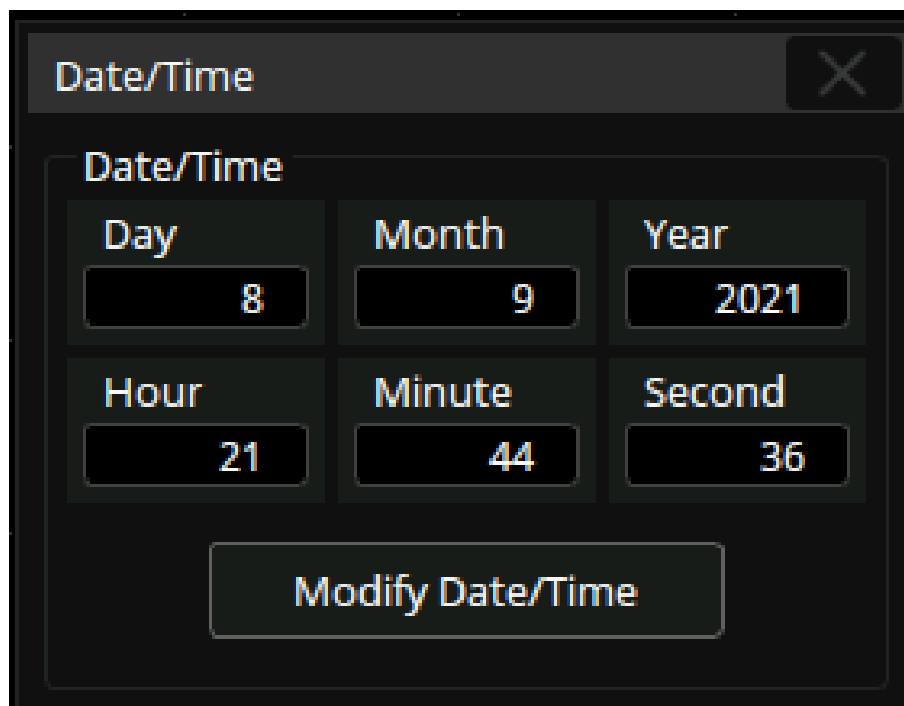

Figure 23.4 Date/Time
3. Touch **Date/Time** to display the Date/Time window shown in figure 23.4.